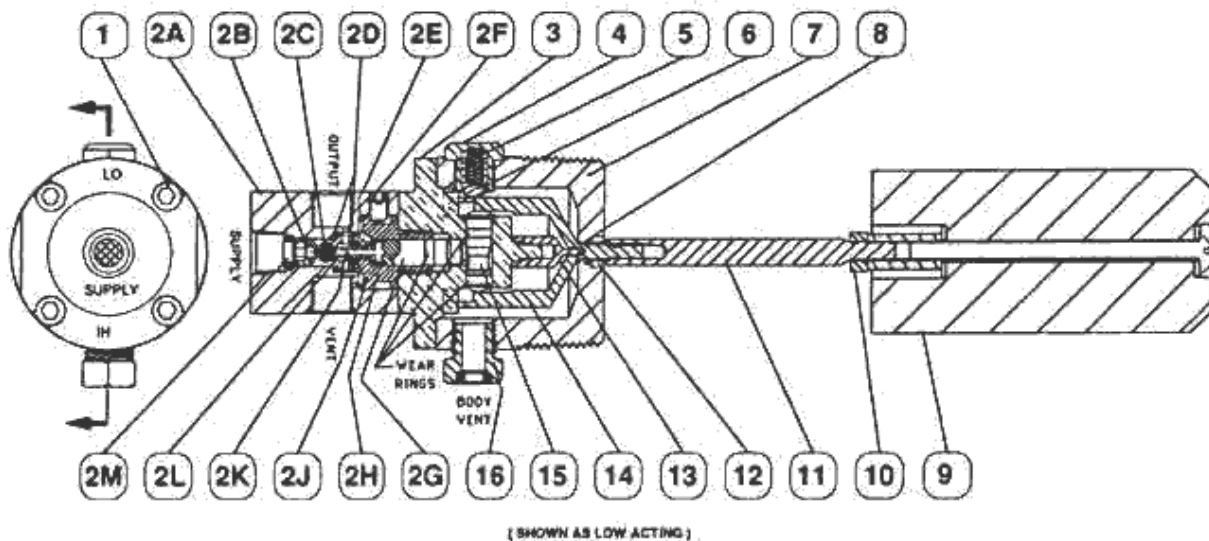

Figure 3
2.0 PRINCIPLE OF OPERATION (Refer to Figure 3)